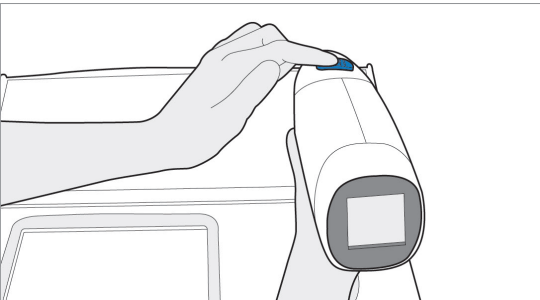

Figure 44 Needle Depth Setting
6. Set the needle depth on the Handset based on the recommendation of the system and clinical judgment regarding the needle length required to safely electroporate the intended deltoid or anterolateral quadricep (see Figure 44).